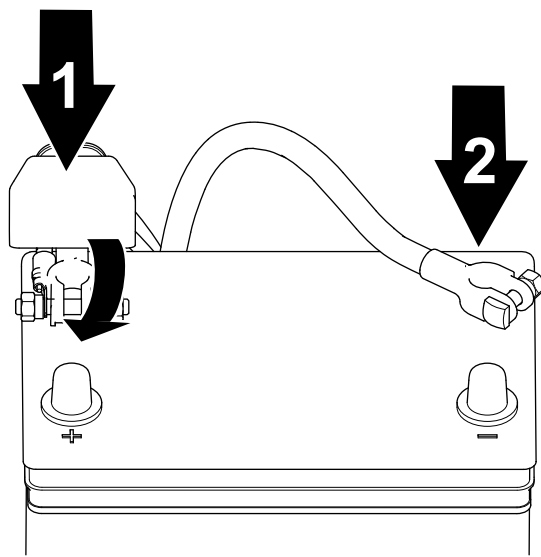

Figure 35
1. Connect the positive cable to the battery and tighten the battery-clamp nut (Figure 35).
2. Connect the negative cable to the battery and tighten the battery-clamp nut (Figure 35).